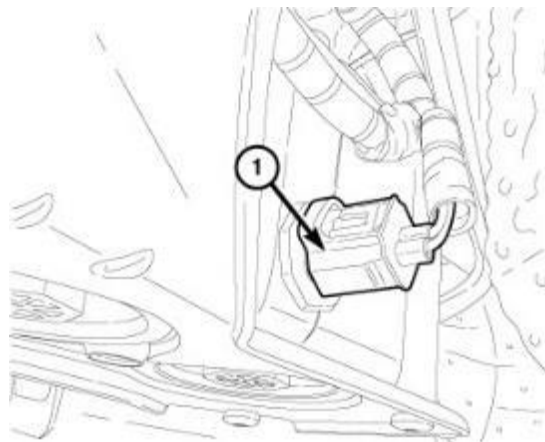

Figure 41 – WIF Sensor Connector
97. Disconnect the Water In Fuel (WIF) sensor wire harness connector (1) (Figure 41).
110. Connect the Water In Fuel (WIF) sensor wire harness connector (1) (Figure 41).